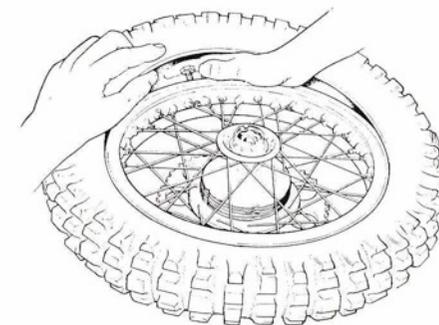

Fig. 59 Placing the security bolt in position.
- 3 Loosely assemble the security bolts to the rim with the nuts on the end thread only (see Fig. 59).